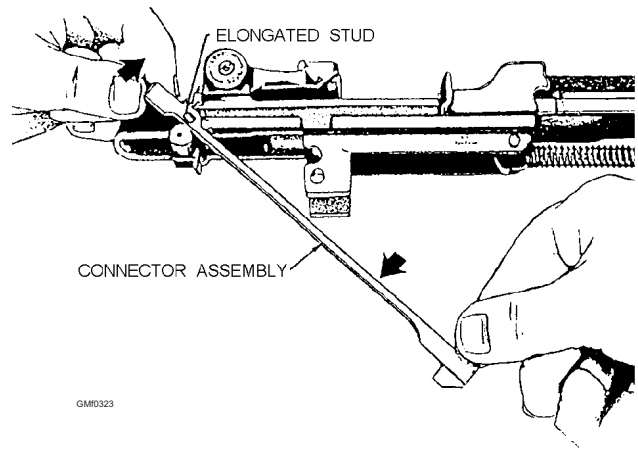

Figure 3-23.—Removing the connector assembly.
4. Rotate the connector assembly about 35 degrees clockwise until the slot at the rear is aligned with the elongated stud on the sear release (fig. 3-23); then lower the front end of the connector assembly and lift it off the sear release.